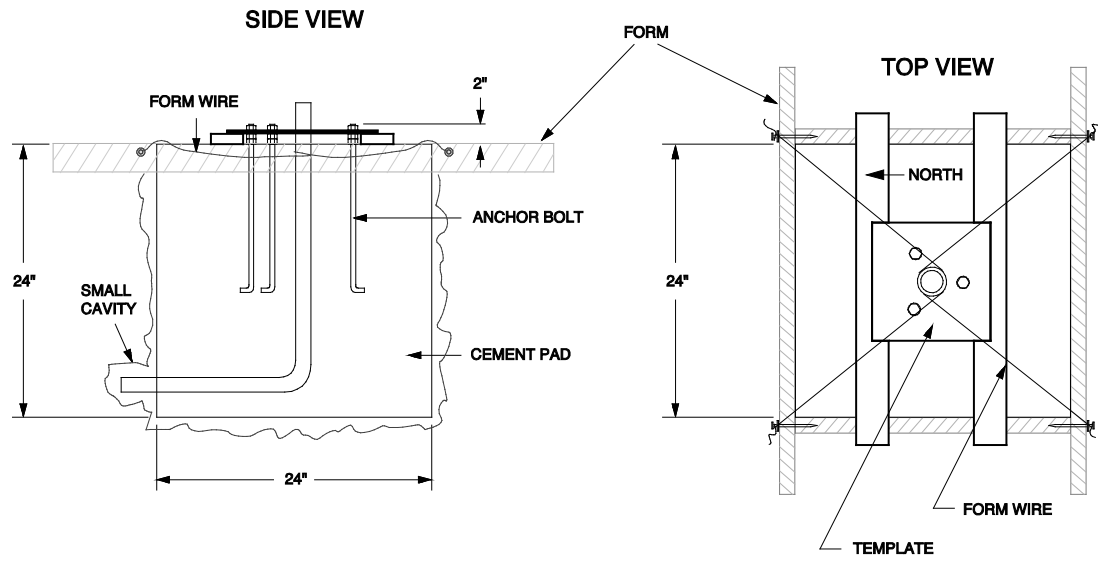

FIGURE 2-2. ET Tower Base Installation
1. The ET Tower attaches to a user supplied concrete foundation constructed as shown in FIGURE 2-2.